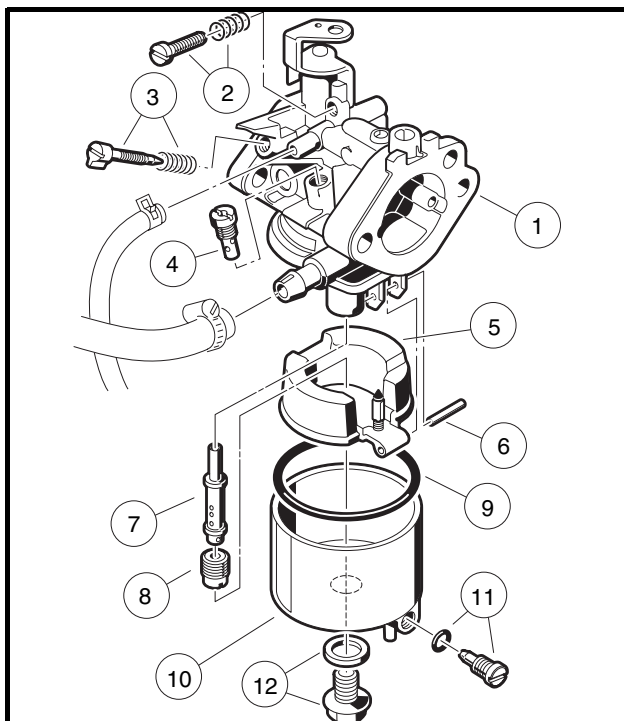

Figure 16-4 Carburetor Components
2. Position the carburetor with the drain screw (11) over a catch basin (**Figure 16-4, Page 16-4**).
- Remove the carburetor fuel bowl retaining screw and washer (12), then remove the fuel bowl (10) and clean it with a nonflammable solvent (Figure 16-4, Page 16-4). See following NOTE.
NOTE: Make sure the fuel bowl gasket (9) remains properly seated in the carburetor body when the fuel bowl is removed (Figure 16-4, Page 16-4).
- Remove the main jet (8) from the carburetor body and discard it (Figure 16-4, Page 16-4). See following NOTE.
NOTE: Make sure the fuel nozzle (7) does not fall out of the carburetor body after removal of the main jet. This is best accomplished by positioning the carburetor upside down during main jet removal (Figure 16-4, Page 16-4).